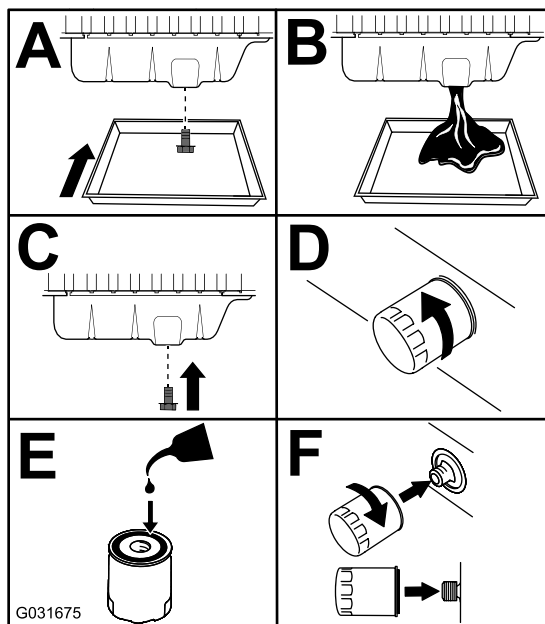

Figure 90
3. Replace the engine oil and filter (Figure 90).